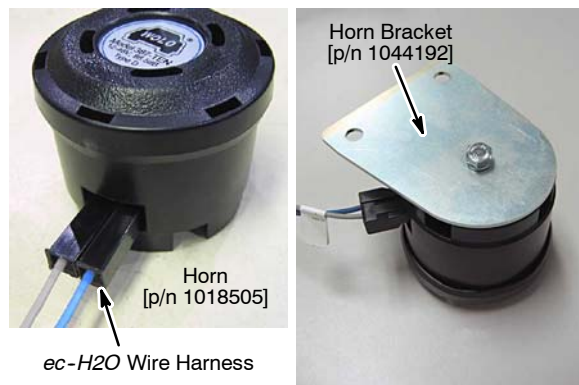

Fig. 47
1. Connect the routed *ec-H2O* wire harness to horn [p/n 1018505] as shown. Using screw and lock washer supplied with horn, attach the horn bracket [p/n 1044192] to horn (Figure 47).